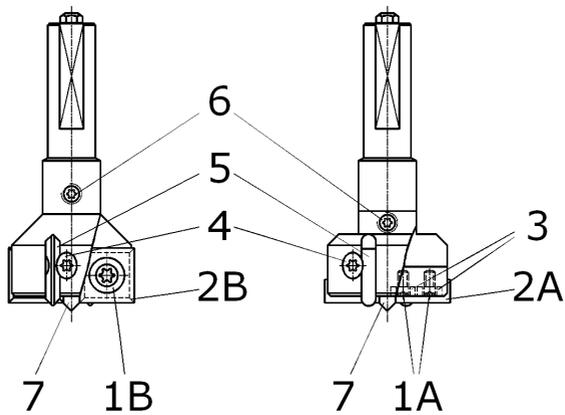

Fig. 1
(see Fig. 1, 2 and 3)
5. Before mounting the raker knife (2A), make sure that the marking (8) of the clamping wedges (3) are lined-up parallel to the mounting notch of the raker knife.
6. Mount precisely reversed or new knife into the knife seat (see Fig. 1 and 2). Make sure that the stop edge of the knife leans onto the stop surface of the knife seat.
7. Press slightly the knife against the stop face and laterally against the center point (see Fig. 1 and 2).
10. Check on the hinge boring bit that for the raker knives, the screw (1A) and the clamping wedge (3) are approx. flush with the tool body.
2. In order the spur knife (5) can be removed from the knife seat, the screw (4) must be completely removed using a suitable key.
4. Mount precisely reversed or new spur knife into the knife seat (see Fig. 1). Make sure that the head of the screw engages into the notch provided for by the spur knife.
5. Re-mount screw (4) with suitable torque key and tighten it to the required torque of 2 Nm for the variant with raker knife (2A) and 3 Nm for the variant with reversible knives (2B).
3. Loosen screw (6) with a suitable key only so far until the center point (7) can be removed from the connecting bore (see Fig. 1 and 3).